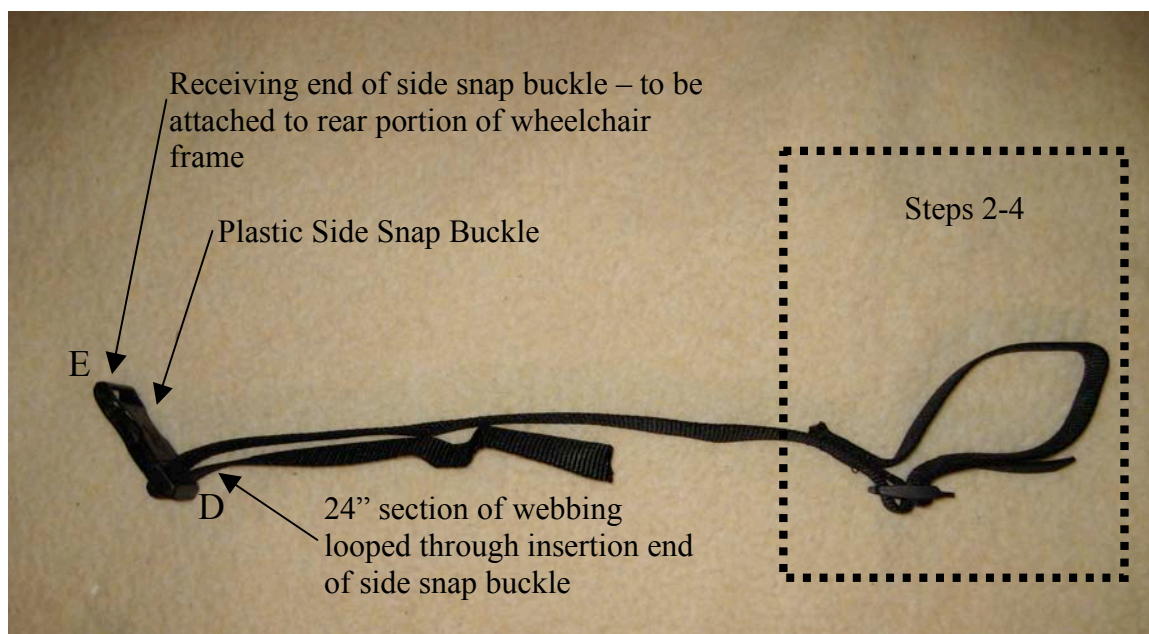

FIGURE 40 – Step 5 – Hind Limb Suspension Straps.
Step 5. Loop the remaining free end of the 24 in section of webbing through the insertion end of a side snap buckle (point “D” shown in Figure 40).